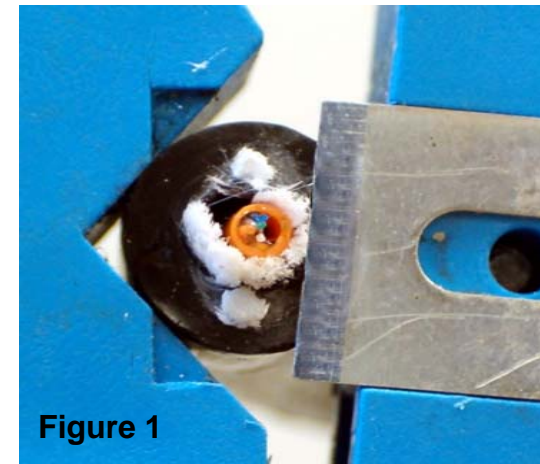

Figure 1
2. Insert the open cable end into the tool cutting assembly. Set the side cutting blade depth precisely as shown in **Figure 1**. The cutting blade should be set just above the yarn surrounding the optical buffer tube. Tighten the set screw securely.